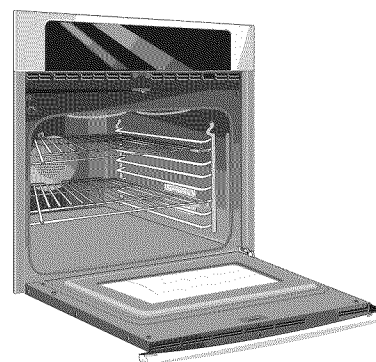

Figure 42: Door at horizontal position
3. Fully open the oven door, horizontal with floor (Figure 42).